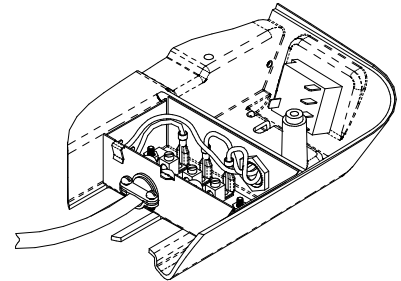

FIGURE 3
5. Connect the supply power conductors to the "A" and "N" lugs on the terminal board. **IMPORTANT** – If power is from one "Hot" and one "Neutral" conductor, connect the neutral to "N". Connect the ground wire to the "E" lug on the terminal board (See Figure 3).
6. Place the metal control box shield over the thermostat, switch and field wiring boxes. Make certain that all wires are pushed into the control boxes or laying in the wireway between the thermostat and switch boxes and will not be pinched by the control box shield. Control box shield is properly installed when the two holes in the shield are aligned with the two screw holes in the ceiling assembly chute (See Figure 3).